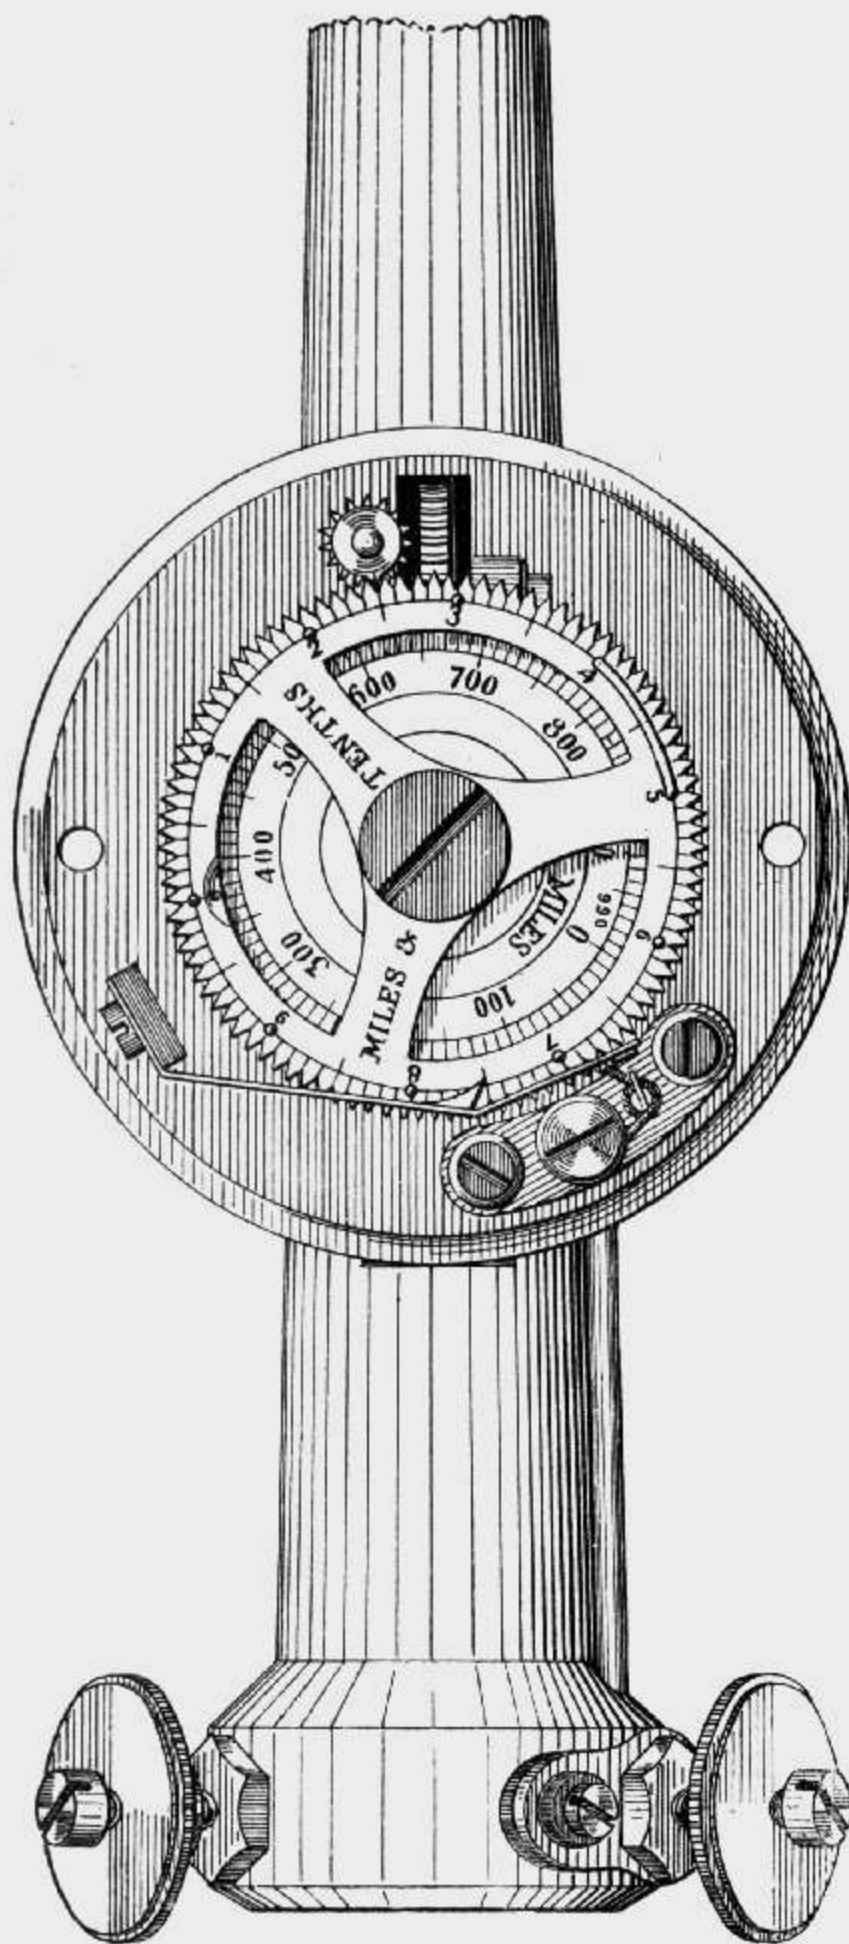

Fig. 37.
1. *Dials, How read.* The standard pattern of anemometer used by the Weather Bureau has the registering dials mounted concentrically. The outer dial has 100 and the inner dial 10 divisions. As the dials are moved by the same wheel, they will move forward one hundred divisions in the same time (Fig. 37). The outer dial having one hundred divisions, the inner dial will complete one revolution and its zero be one division beyond or to the left of the zero of the outer dial when the outer dial has completed one revolution, the zeros of the scales coinciding at the time the instrument was set in motion. Thus the revolutions made by the outer dial are recorded on the inner one, the number of revolutions being shown by the number of divisions of the scale on the inner dial between the zero of that scale and the zero of the outer one. In taking the reading of the anemometer at any time, the hundreds and tens of miles are read from the inner scale and the miles and tenths of miles are read from the outer one. Take from the inner scale the hundreds and tens of miles contained between the zero of that scale and the zero of the outer one, and the miles and tenths of miles on the outer scale contained between the zero of that scale and the index of the instrument, and the sum of these readings will be the reading of the instrument at the time of making the observation.
Example: The dial reading of to-day is 372, (see Fig. 37), and that of yesterday was 983, hence we have $372 + 990 = 1362$; $1362 - 983 = 379$, the total observed movement of the wind in miles during the past twenty-four hours.